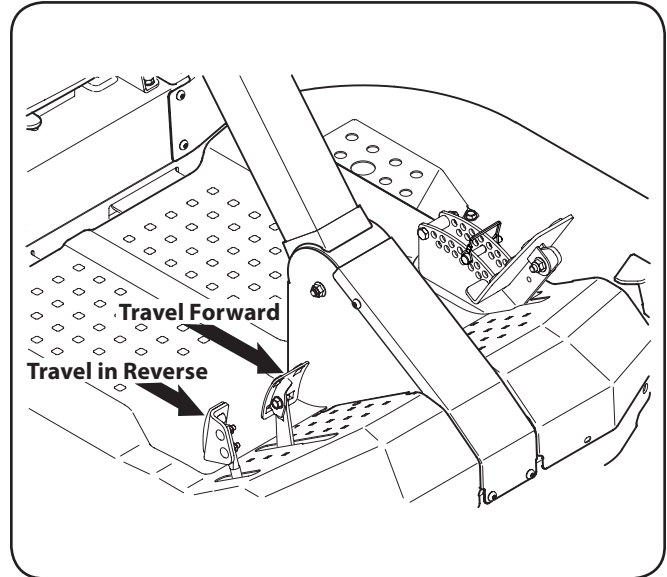

Figure 5-3
2. To travel FORWARD, slowly press the drive pedal forward until the desired speed is achieved. See Figure 5-3.
4. To travel in REVERSE, check that the area behind is clear then slowly reverse pedal with the ball of your foot (NOT your heel) until the desired speed is achieved. See Figure 5-3.